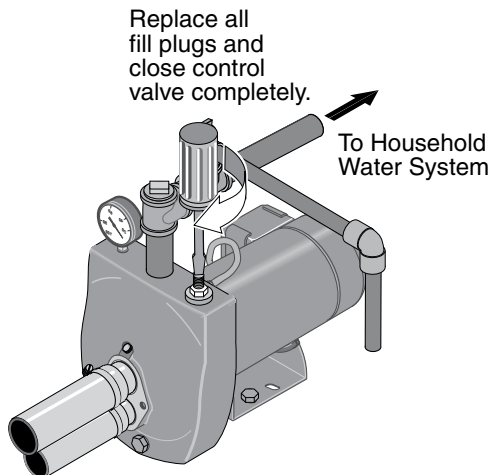

Figure 13: Prime Pump
Step 2. Replace all fill plugs and close the control valve completely (Figure 13).